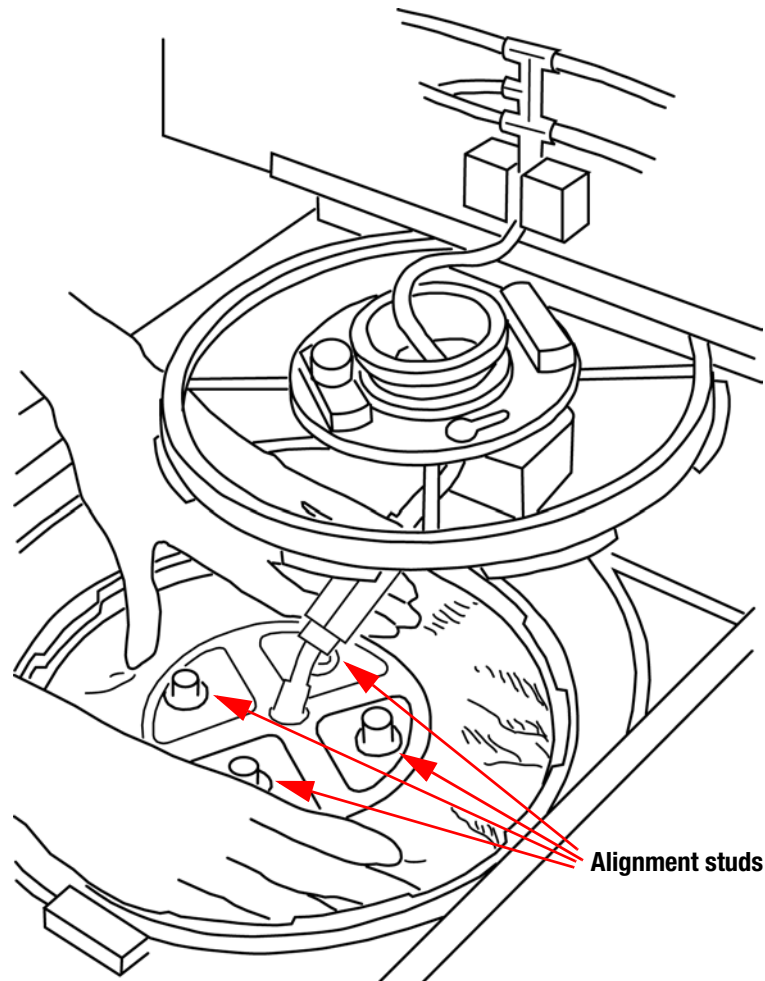

Figure 6-7: Placing the cell processing bag on the alignment studs
- 22** Install the cell processing bag in the centrifuge bowl by positioning the four holes in the bag on the four alignment studs in the centrifuge (Figure 6-7). Make sure the bag lies flat in the centrifuge bowl. Press the outer edge of the cell processing bag completely into the bowl, eliminating as many creases as possible. The spike receptor of the cell processing bag should be at an angle to allow the centrifuge bowl cover to close (Figure 6-8).